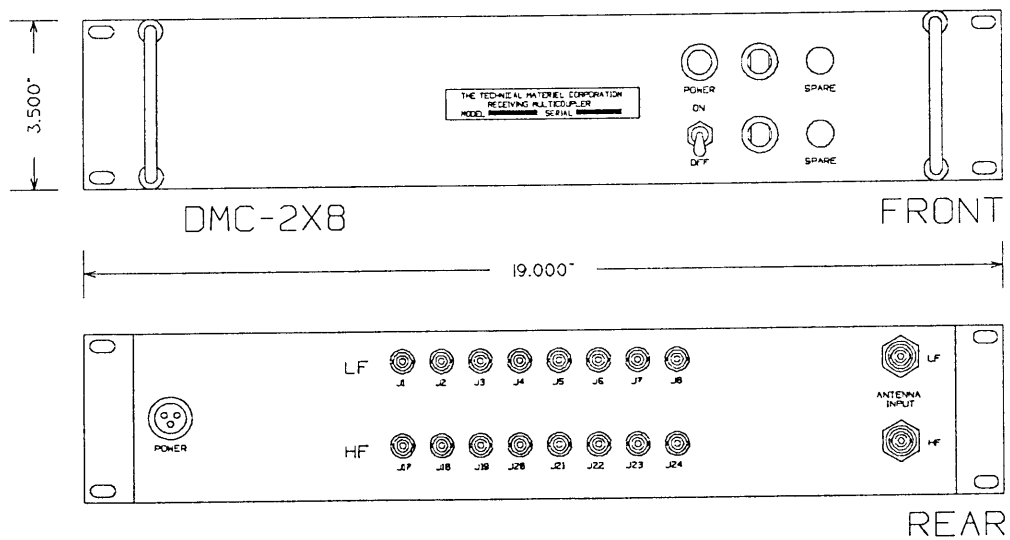

Figure 2.2 DMC-2X8 Multicoupler Installation/Dimensions
Each preamplifier is mounted on a printed circuit board which is securely fastened to a tin-plated steel module. It is a low-noise, wideband amplifier having a 50-ohm impedance and nominal voltage gain of either 15dB (HF) or 30dB (VLF/LF). Figure 2.2 depicts its location in the mounting case. The case, along with the bypass control network, is sealed in the module and is cooled by convection through the metallic surfaces.